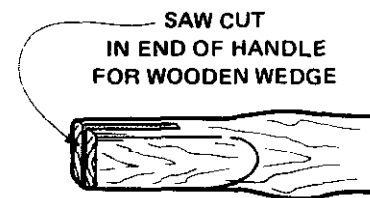

Fig. 11-18 Saw kerf for wooden wedge.
5. Before inserting the handle into the eye, make a saw kerf in the end as shown in figure 11-18. Use a backsaw for small handles and a handsaw for making the kerf on larger handles. Make the kerf to a depth about three-fourths the distance through the eye.